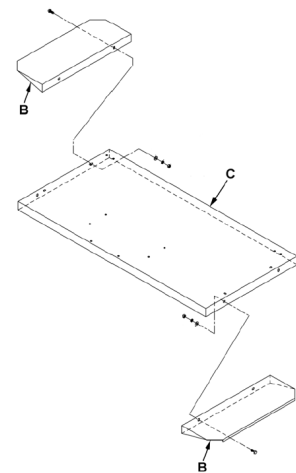

Fig 1
Attach the base extensions (B, Fig 1) to the base (C) with hex head screws, washers, lock washers and nuts.